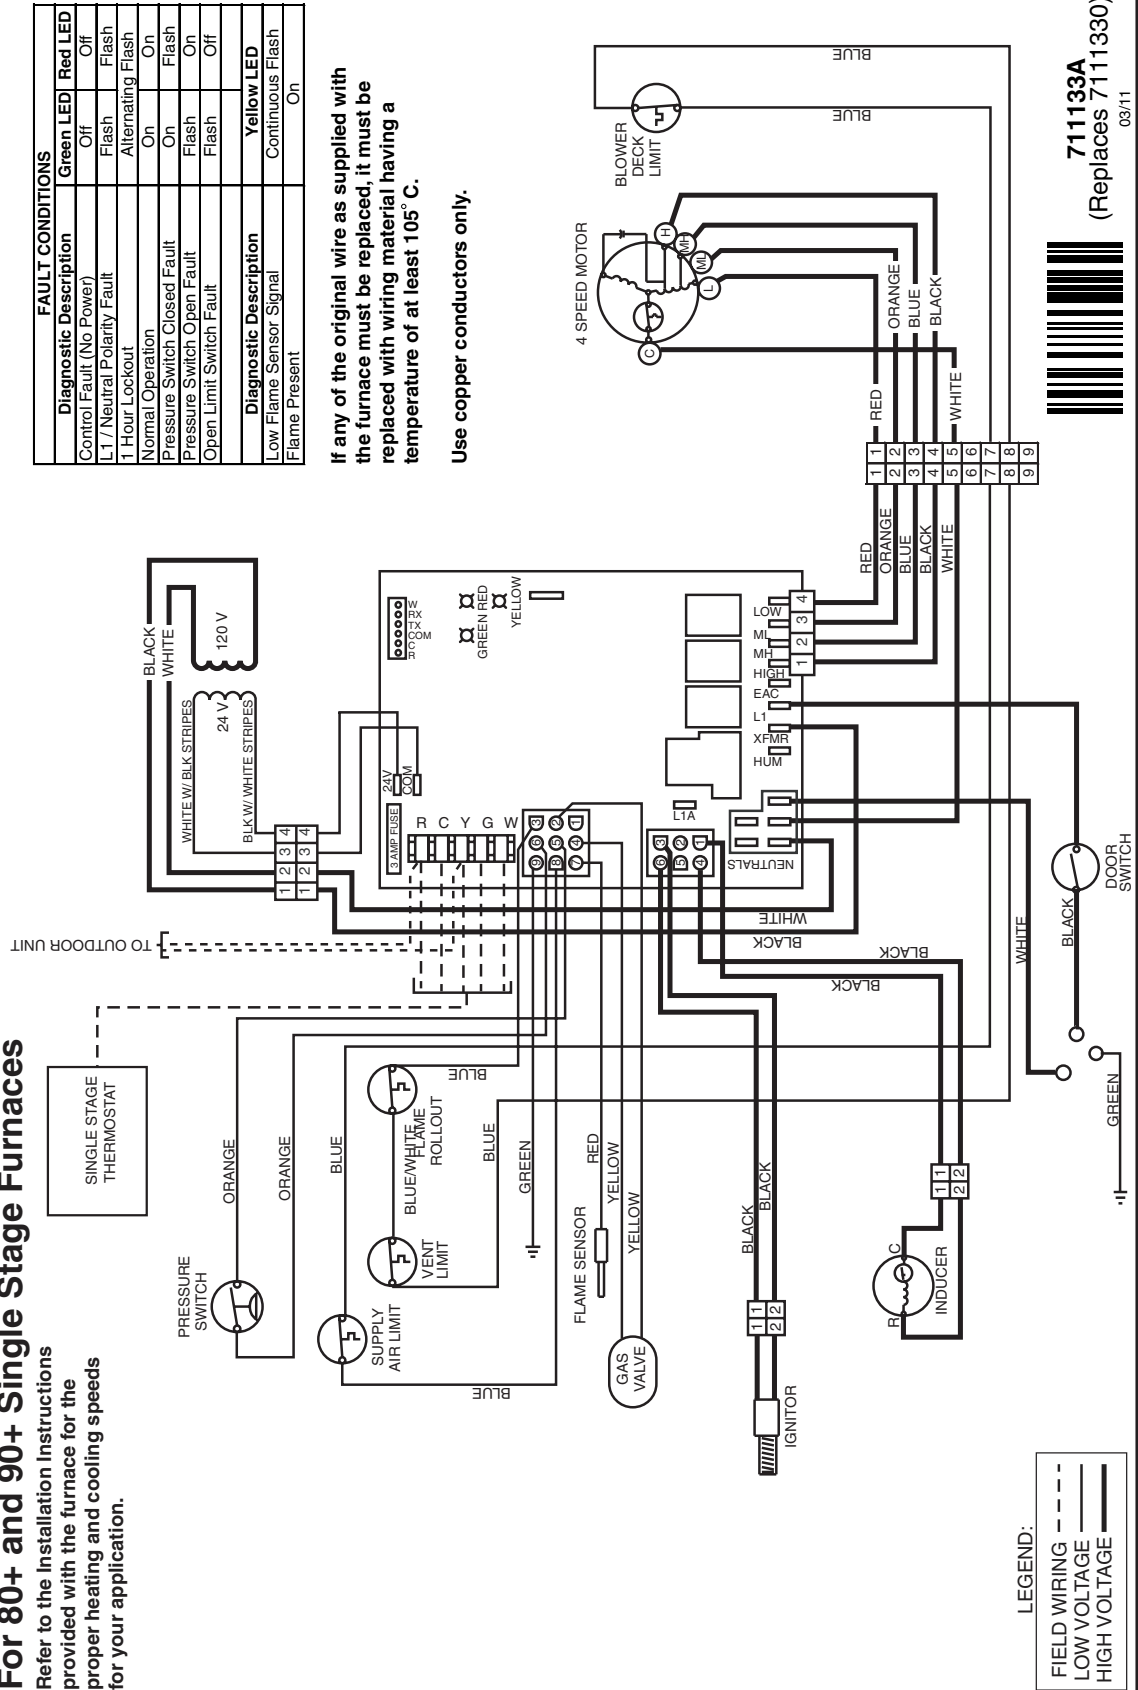

Figure 26. M7RL Wiring Diagram
- Are all the LED's on the furnace control board constantly ON? If not, refer to Table 7 or the wiring diagram (Figure 26, page 32) to determine fault condition.